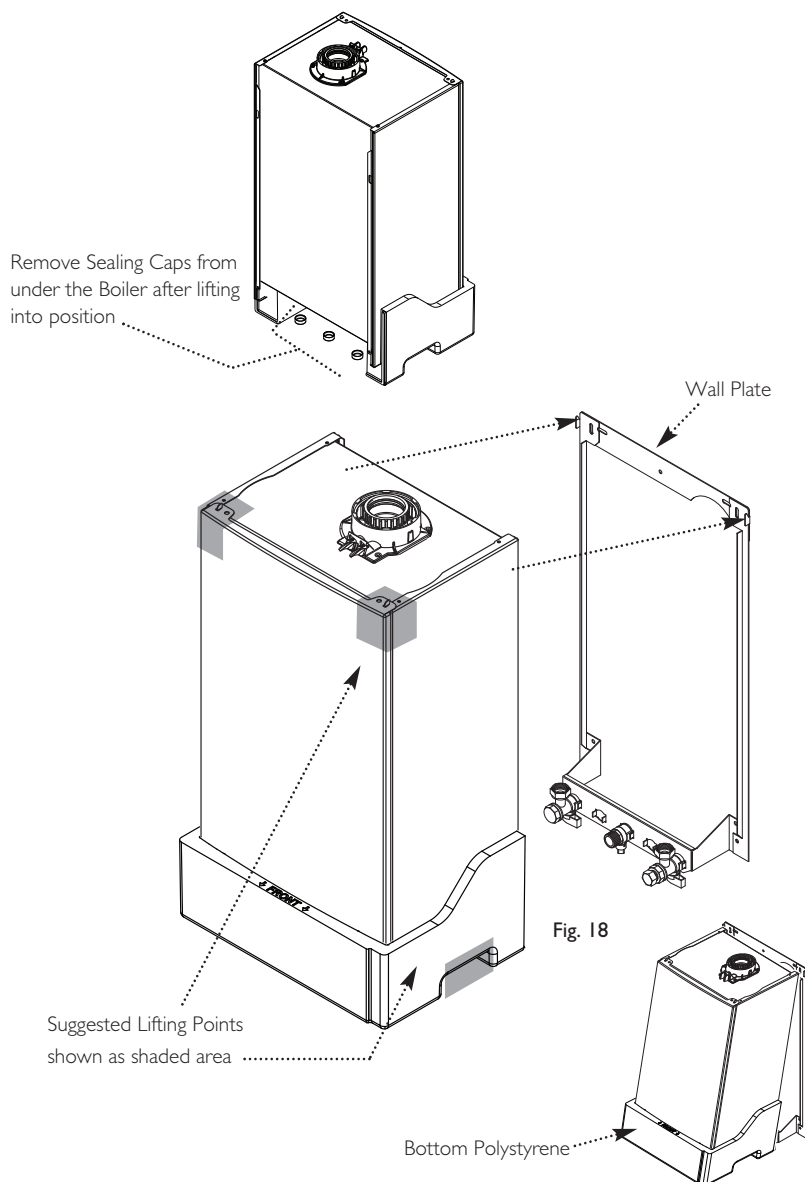

Fig. 18
1. Lift the boiler using the Lifting Points as shown by the shaded areas (Fig. 18). The boiler should be lifted by TWO PEOPLE. Engage the slots at the top rear of the boiler on the wall plate (Fig. 18) (see **Safe Manual Handling** page 5).